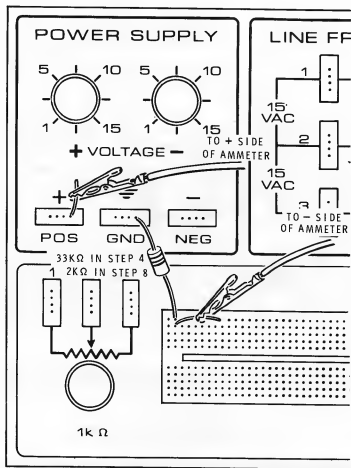

Figure 1-86
4. If your meter has current scales, connect the circuit shown in Figure 1-86 and measure the current in the circuit. The current is _____ milliamperes.
8. If your meter has current scales, construct the circuit shown in Figure 1-86 using the 2000 ohm resistor.